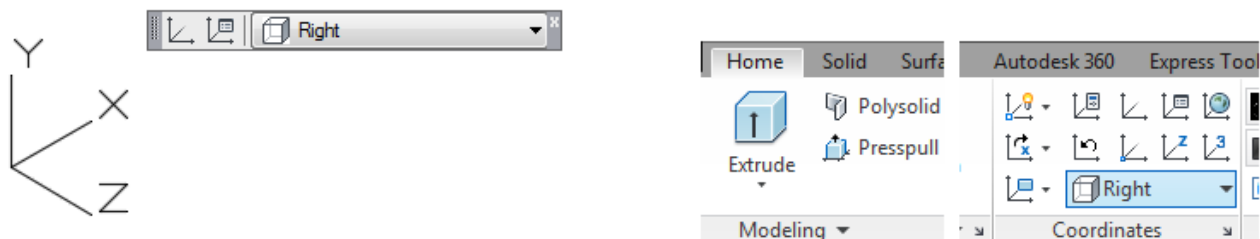

Figure Step 4
Step 4 Set the current view to SE Isometric and the current UCS to Right. (Figure Step 4)